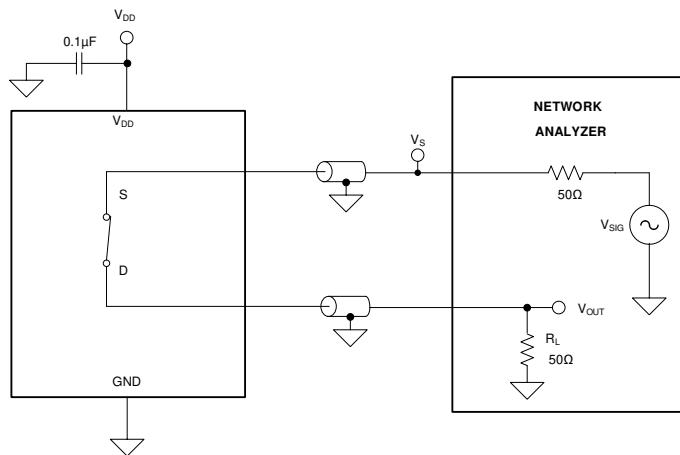

**Figure 21. Off isolation measurement setup**
Off isolation is defined as the ratio of the signal at the drain pin (D) of the device when a signal is applied to the source pin (S) of an off-channel. The characteristic impedance,  $Z_0$ , for the measurement is  $50 \Omega$ . Figure 21 shows the setup used to measure off isolation. Use off isolation equation to compute off isolation.